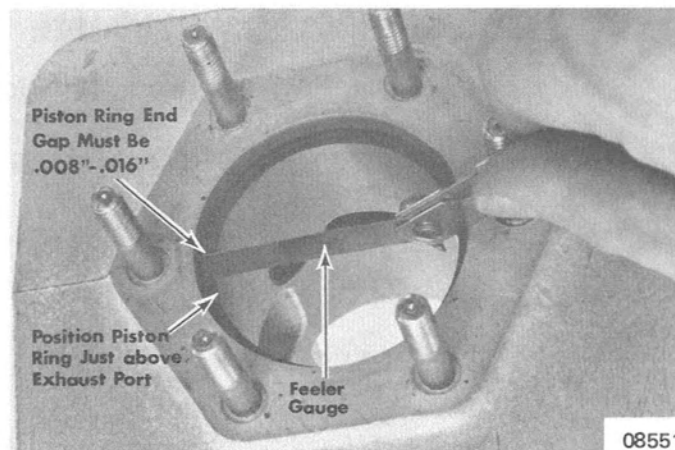

Figure 4. Checking Piston Ring End Gap
2. Check end gap of each piston ring with a feeler gauge. (Figure 4) End gap must be within .008" to .016" (.20mm to .41mm). If end gap is in excess of these tolerances, check other new piston rings in cylinder bore until one, within tolerance, is found.